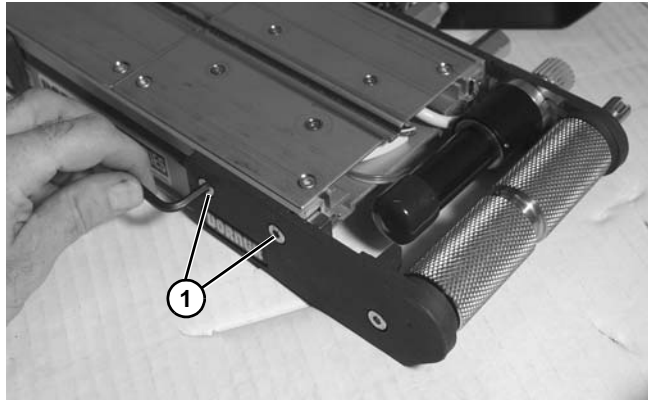

Figure 54
9. Remove two head plate fastening screws (Figure 54, item 1) from opposite side of conveyor.